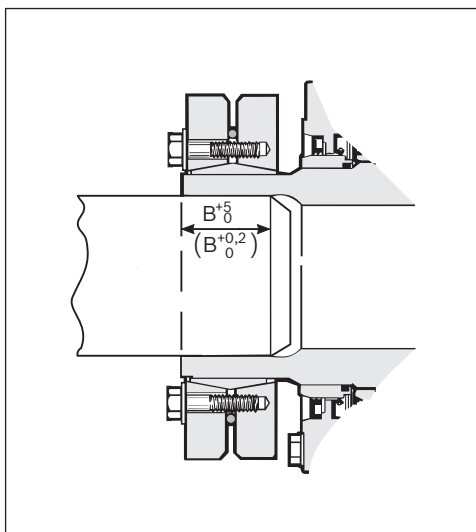

Fig. 3.11 Without stress relieving groove
Ensure that the full clamping length is used by, for example, measuring and marking the driven shaft. This is of particular importance if the duty is so severe that a stress relieving groove has been made on the driven shaft. See figure 3.11, 3.11a and the table 3.8.
- Pull the motor onto the shaft by turning the nut on the mounting tool until the length stated in the table 3.8, is obtained; see figure 3.11.
Align the motor with the driven shaft using an overhead crane or lifting truck and press it carefully onto the shaft so that the length stated in the table beside is obtained, see figure 3.11.